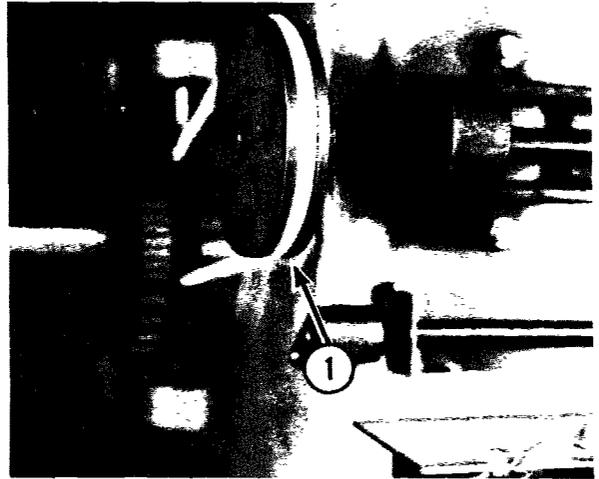

Fig. 2-16
- (1) Remove the attachment hub. (Refer to Attachment Hub and Bearing Removal).
- (2) Lift the bowl cover and remove it from the hinge pins.
- (3) Remove the comb and knife assembly.
- (4) Remove the bowl.
- (5) Using a support so the electrical cord will not be damaged, lay the machine on its back.
- (6) Remove the bottom cover and leg assembly from the bottom of the housing.
- (7) Remove the nuts and lock-washers from the motor mounting studs. Remove the motor assembly and lay it to the side of the housing.
- (8) Remove the round belt from the bowl drive pulley (1, Fig. 2-16).